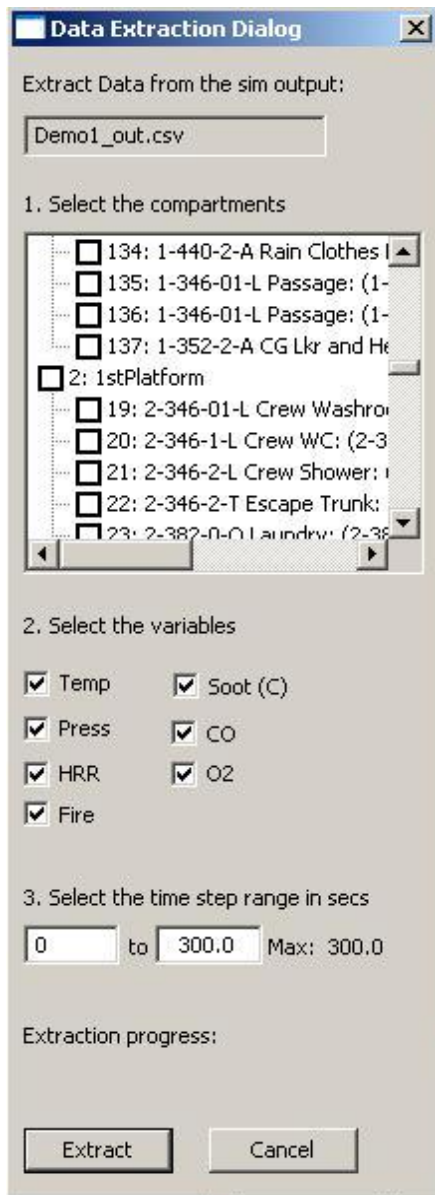

Figure 8-22 Data Extraction Dialog
*Simulation* dialog and the *Object State Editor* dialog are hidden and a new *Data Extraction* dialog as shown in Figure 8-22 pops up.
- a. First way is to click in the checkboxes of the tree in the data extraction dialog (Figure 8-22) to select or deselect the compartments.